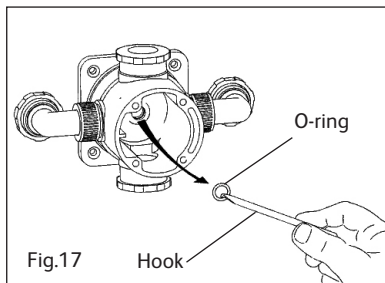

Fig.17
8. Carefully remove the existing O-ring using a suitable tool i.e. crochet hook or similar, take care to avoid any damage to the seating (Fig 17).